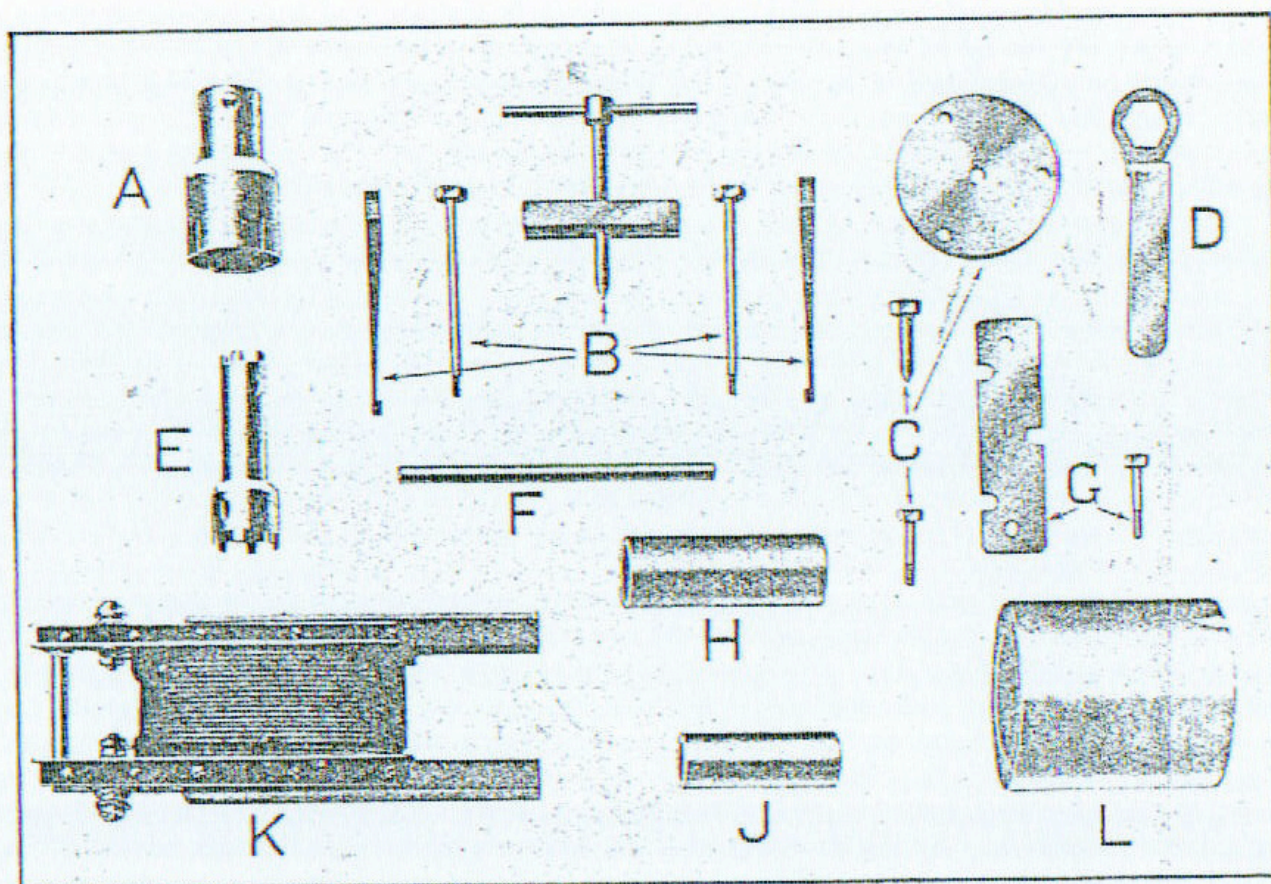

FIG. 6. STONE'S L.B.B. TURBO-GENERATOR.
(a) Box Spanner for governor body; (b) Extractor for ball bearings; (c) Extractor for Bucket Wheel; (d) Ring Spanner for Bucket Wheel Nut; (e) Peg Spanner for ball bearings; (f) "Tommy" Bar for (a) and (e); (g) Locking strap for Bucket Wheel; (h) (j) Tubular drifts for ball bearings (See Fig. 6), and Ring Spanner for valve body and strainer cap (*not illustrated*), and (c).
2. Keeper (See Fig. 6).
3. Charger suitable for 24 to 32 volt circuit (Note—this voltage is recommended, as the inductive discharge when breaking a current on high voltage is dangerous). (See Fig. 6.)